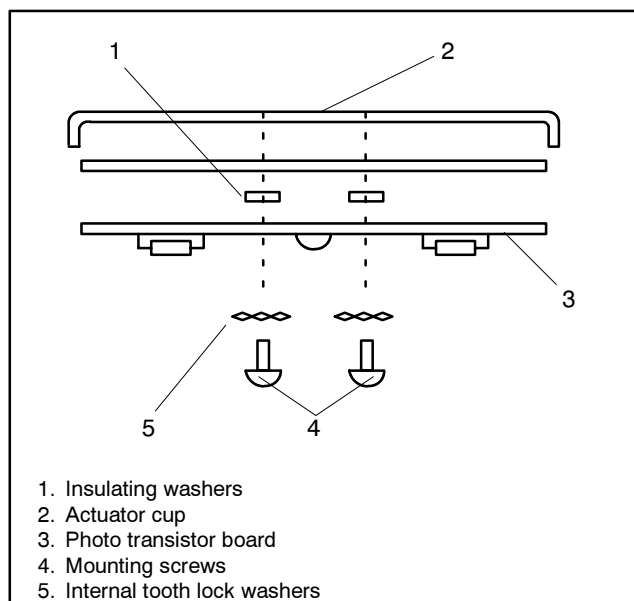

Figure 5 Photo Transistor Board Mounting
12. Attach photo transistor board (B-292902), insulator (257850), washers (243321) and actuator cup to end of rotor shaft with screws (X-117-5) and internal tooth lock washers (X-22-9) supplied with kit. Torque mounting screws to 1.1 Nm (10 in. lb.) maximum. Photo transistor board and mounting components should be assembled as shown in Figure 5.